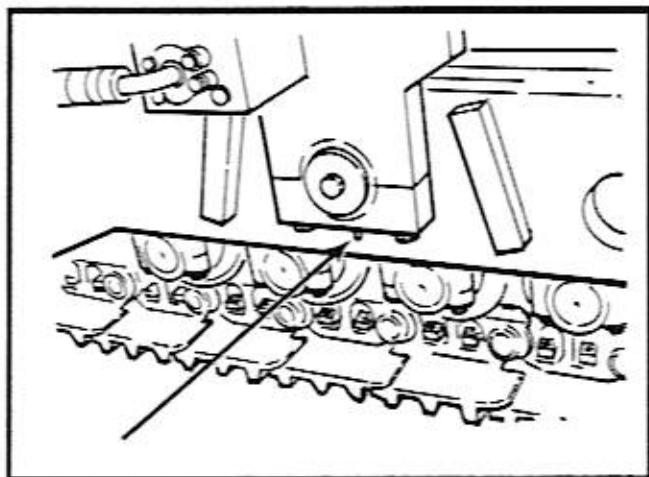

Figure 8-18. Yoke Pivot Bearings
Lubricate the eight (8) yoke pivot bearings with four (4) shots of MPG-EP grease. The fittings are located on the bottom of the yoke on either side of the track. Refer to Figure 8-18.